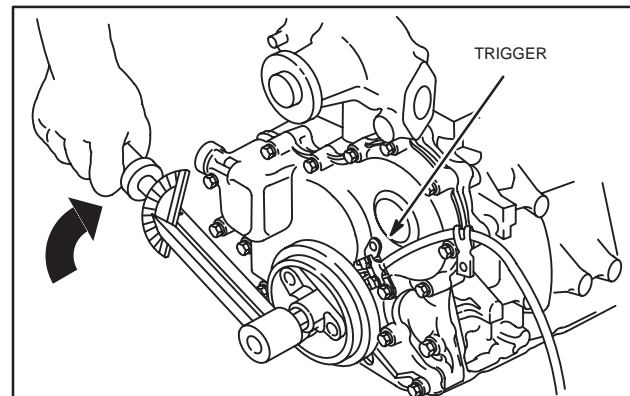

Fig. 19 – Installing Crankshaft Pulley
7. Install crankshaft pulley with timing mark at 12 o'clock position (#1 cylinder), Fig. 19.